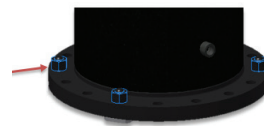

Figure 65
**5.0.25)** Before lifting insertion housing onto the 16" Temporary gate valve, FIRMLY tighten packing nut thumb screw and unscrew the four 1"–8 nuts holding the alignment plate gauge (see Figure 65).